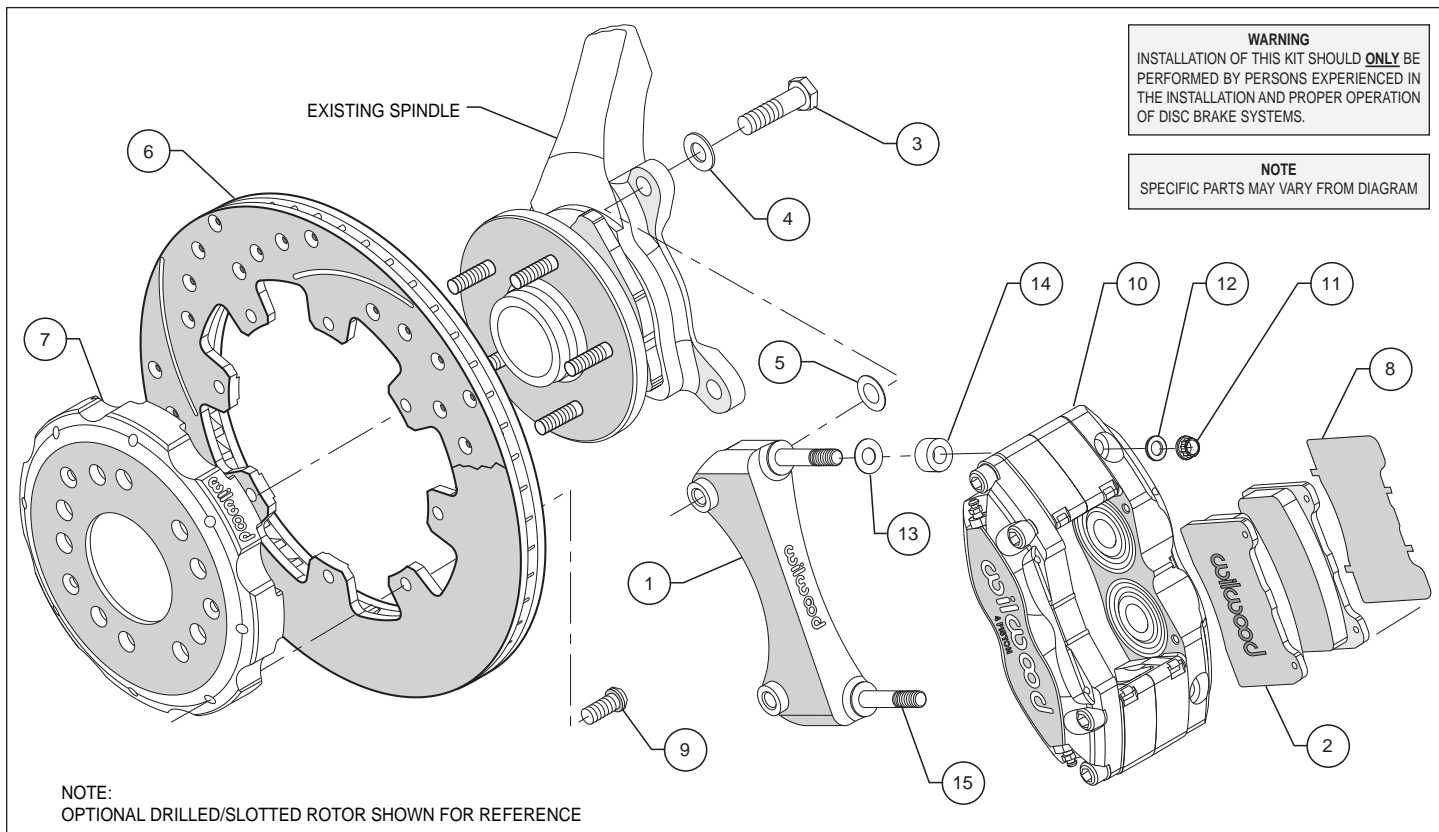

Figure 1. Typical Installation Configuration
- The caliper mounting bracket assembly (1) should be installed first with clean, dry threads on the mounting bolts. Install the bracket from the front side of the spindle by sliding bolts (3) through washer (4), as shown in Figure 1. Place shim (5) between the bracket and the front side of the spindle, Figure 1. The bracket must tighten squarely against the side of the spindle body. Inspect for interference from casting irregularities, machining ridges, burrs, etc. Use one thin shim (5) between the spacer and spindle during initial trial fitting.
- With the larger I.D. side of the rotor (6) facing away from the hat (7), attach rotor (6) to hat (7) using bolts (9) as shown in Figure 1. Using an alternating sequence, remove bolts (9) one at a time, apply red *Loctite*® 271 to the threads, and torque to 25 ft-lb. **NOTE:** *The rotor hat included in this kit is a multiple use part and has two 5 x 4.50" bolt circles. For correct use in this application, use the bolt circle with the smaller diameter (.484") stud holes. For further reference, check the inside face of hat assembly, one of the smaller diameter stud holes will have a circular reference mark engraved around its circumference. Do not use the larger diameter stud holes, as rotor and hat will not center correctly on hub.*
- NOTE:** *Please reference the caution statement at the beginning of the assembly instructions.* Install one shim (13) and spacer (14) over each pre-installed stud (15) on the radial mount bracket (1). Slide the caliper (10) in place over the studs and rotors and install the washer (12) and lock nut (11) to hold the caliper in place. Snug the lock nuts (11) and check that the rotor (6) is centered in the caliper (10). Add or subtract .020" shims (4) as necessary between the bracket (1) and the spindle to center the caliper (10).
- Remove the caliper quick-clip pad retainer from the caliper. Remove the protective material from the adhesive side of the anti-squeal shims (8) and place against the backing plate side of the brake pads (2) utilizing the contour of the backing plate as a guide. Secure material to backing plate by bending the four tabs over the edge of the backing plate. Slide the brake pads (2) with the shims into place. They should install easily without interference. Check that the outside radius of the brake pad is aligned with the outside diameter radius of the rotor face. Add or subtract shims (13) between the caliper and mount bracket to gain the proper alignment. Reinstall the quick-clip pad retainer.
- Once all clearances have been checked, remove the wheel, caliper, hat, and rotor from the spindle and hub. Secure the caliper mounting bracket (1) to the spindle using red *Loctite*® 271. Torque the bolts to 60 ft-lbs. Reinstall the hat and rotor assembly and again use several lug nuts to hold it in place. Lubricate caliper mounting studs and nuts with lightweight oil, reinstall the caliper, torque the caliper nuts (11) to 28 ft-lb.